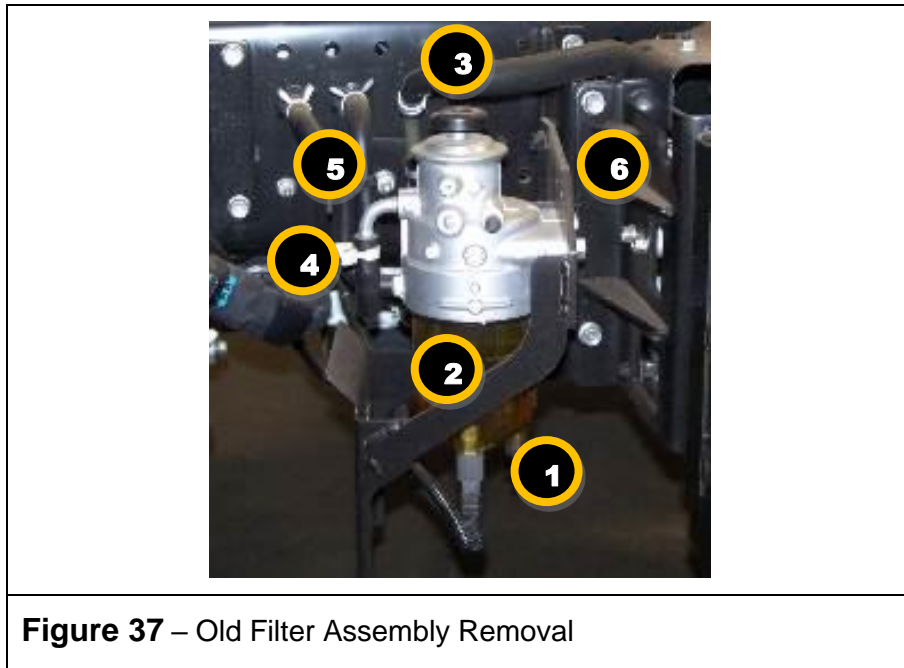

**Figure 36**
37. Is the vehicle equipped with screw on clear bowl shown in Figure 36?